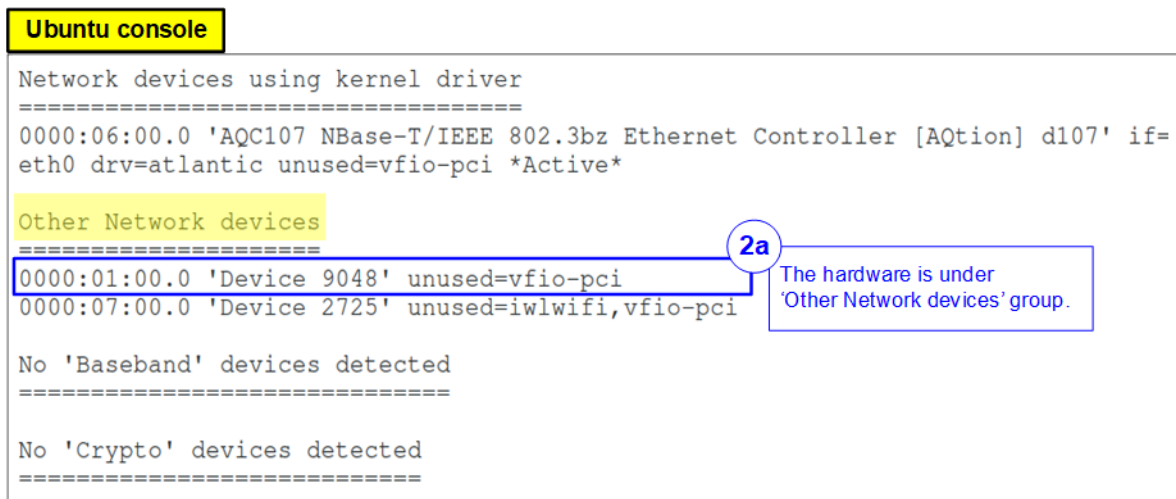

Figure 25 Device Unbound from 'vfio-pci' Driver
- a) If the device is unbound, it appears under the “Other Network Devices” section, as shown in Figure 25.